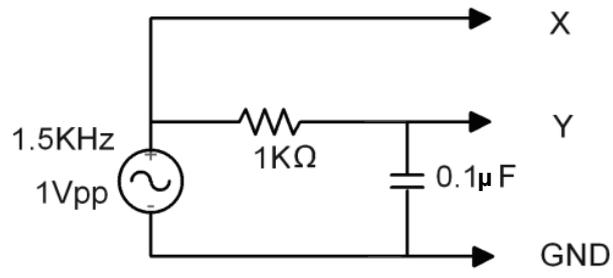

Fig. 2. R-C circuit to show the Lissajous pattern.
1. Connect the circuit shown in Fig. 2.